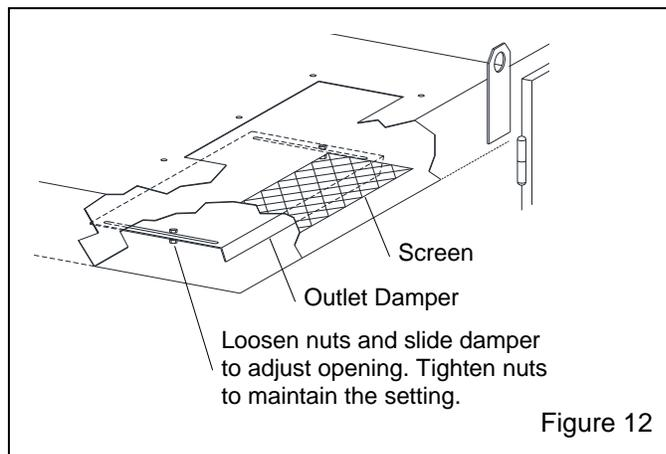

Figure 12
5.4.2 Adjust static pressure by opening or closing the outlet damper located above the reclaimer on the underside of the underside of the power module, refer to Figure 12. If the damper is not opened far enough, the reclaimer will not remove fines, resulting in dusty media, poor visibility, or will not convey media, causing media build-up in the hose between the cabinet hopper and reclaimer. If the damper is opened too far, it may cause carry-over (usable media carried into the dust collector) and result in excessive media consumption. Open only as far as necessary to obtain a balance of maximum dust removal without media carryover.